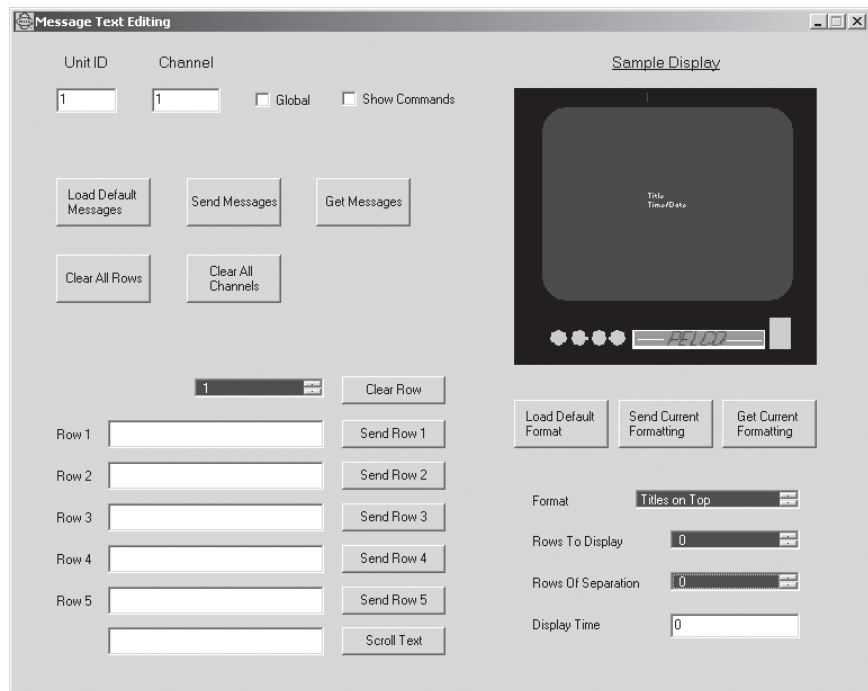

Figure 31. Message Text Editing Dialog Box
2. Open the Message Text Editing dialog box by clicking Edit on the CM9760-MDA SETUP dialog box and then clicking Message Text. The Message Text Editing dialog box, Figure 31, appears.